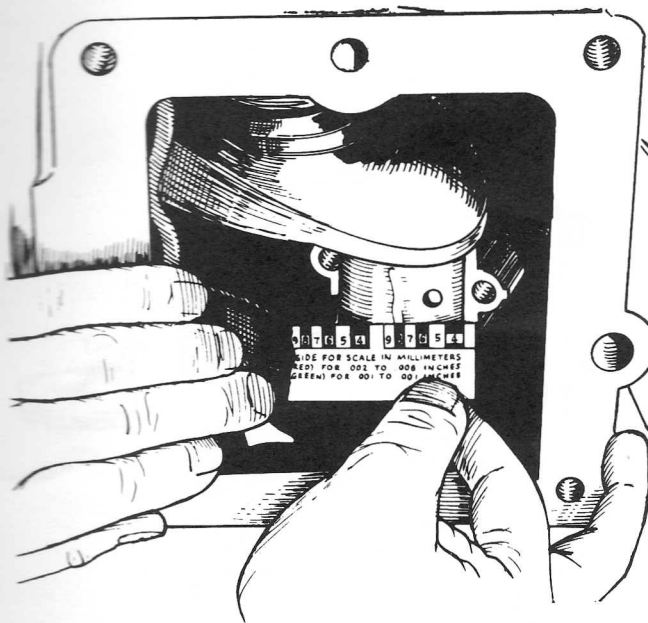

FIGURE 33. MEASURING BEARING CLEARANCE
2. Place a piece of correct size Plastigauge in the bearing cap the full width of the crankshaft rod surface about 1/4 inch (6.35 mm) off center (Figure 33).